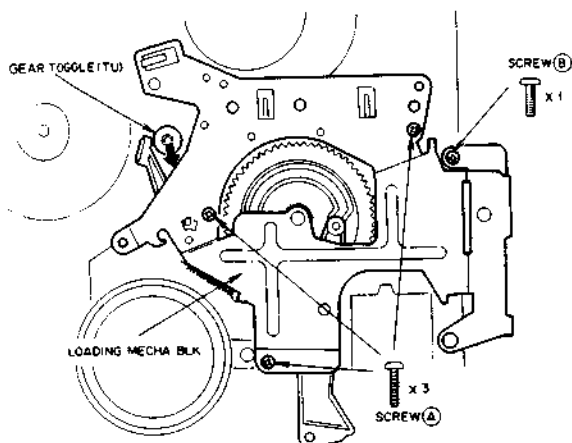

Fig. 4-13
- 9) Attach the LOADING MECHA. BLK with holding the GEAR TOGGLE (TU) in the direction of the arrow as shown in Fig. 4-13. Tighten the LOADING MECHA BLK with four screws (A) and (B).